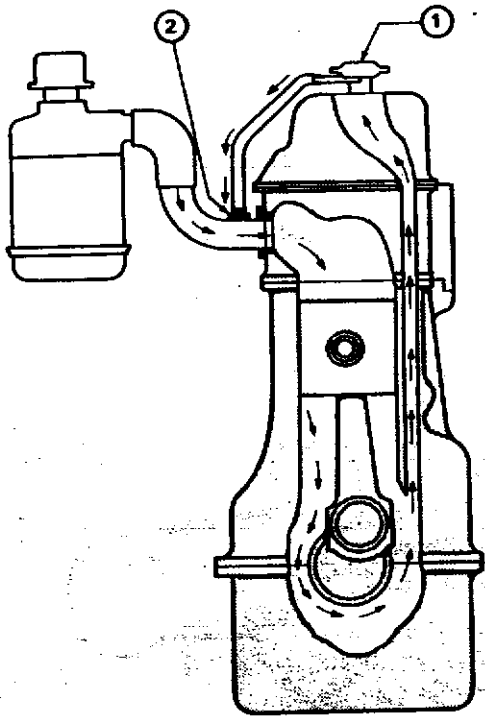

Fig. 9A Latest type
- (b) Phase II as fitted to 2700C/2710E Range engines (Fig. 9A and 9B).
(b) The illustrations Figs. 9A, 9B and 10 show the revised crankcase breathing system for the Phase II engine.